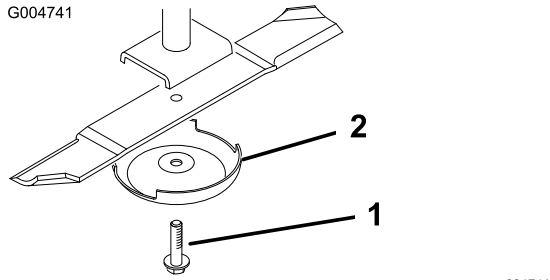

Figure 109
- Grasp the end of the blade using a rag or thickly padded glove. Remove the blade bolt, anti-scalp cup, and blade from the spindle shaft (Figure 109).